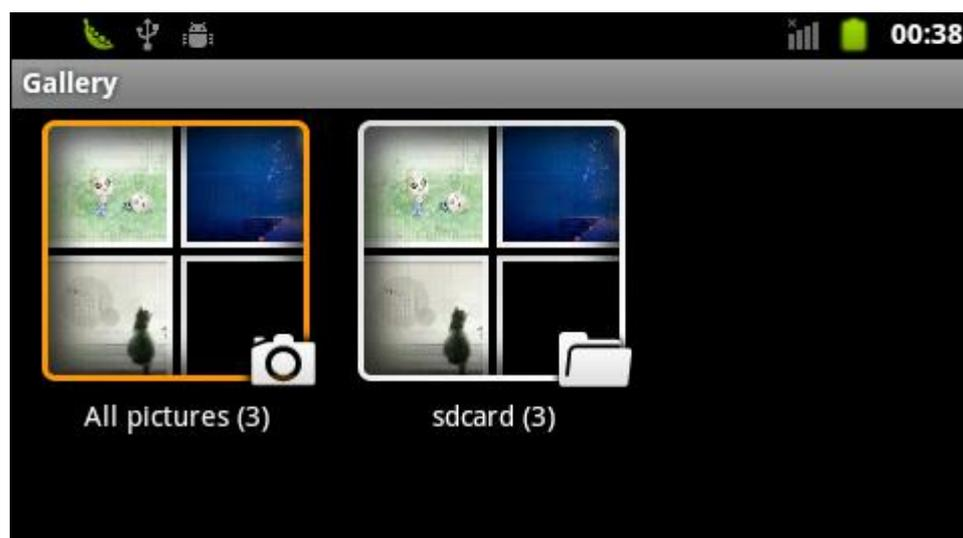

Figure 5-20
(2) Select a picture folder. Refer to figure 5-20: